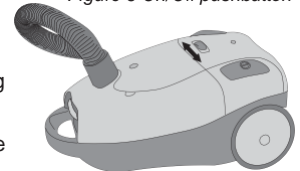

Figure 7 Vacuum suction control
9. You can adjust the vacuum suction with the vacuum suction control, see Figure 7. It is advisable to reduce the vacuum suction when cleaning upholstered furniture and curtains. This will prevent the fabric from being sucked into the nozzle.